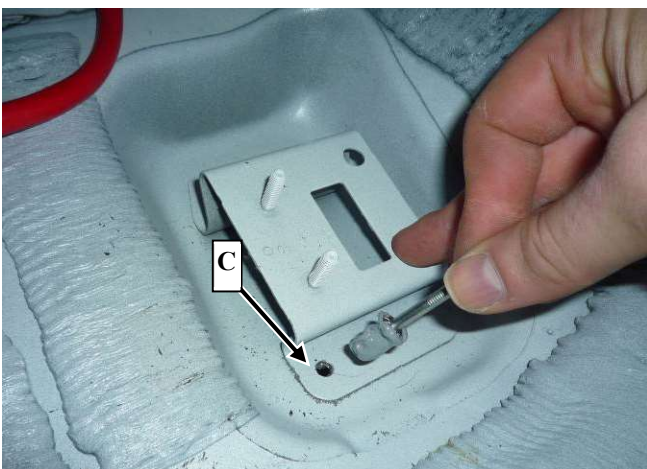

Figure 5
**i** The rivets **must be coated with seam seal (A 000 989 46 06)** before inserting them in the bore (**Figure 5**).